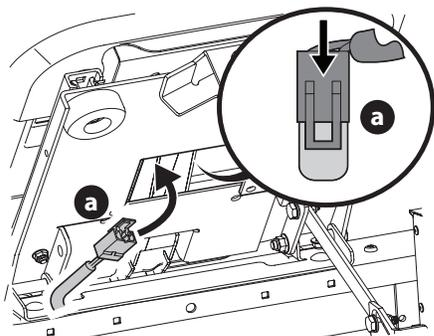

Figure 10
4. Insert the wiring harness (a) into the bottom of the seat (Figure 10).
**NOTE:** When the wiring harness (a) is connected, be sure to push the excess wire from the wire harness (a) into the seat box hole before continuing (Figure 10).